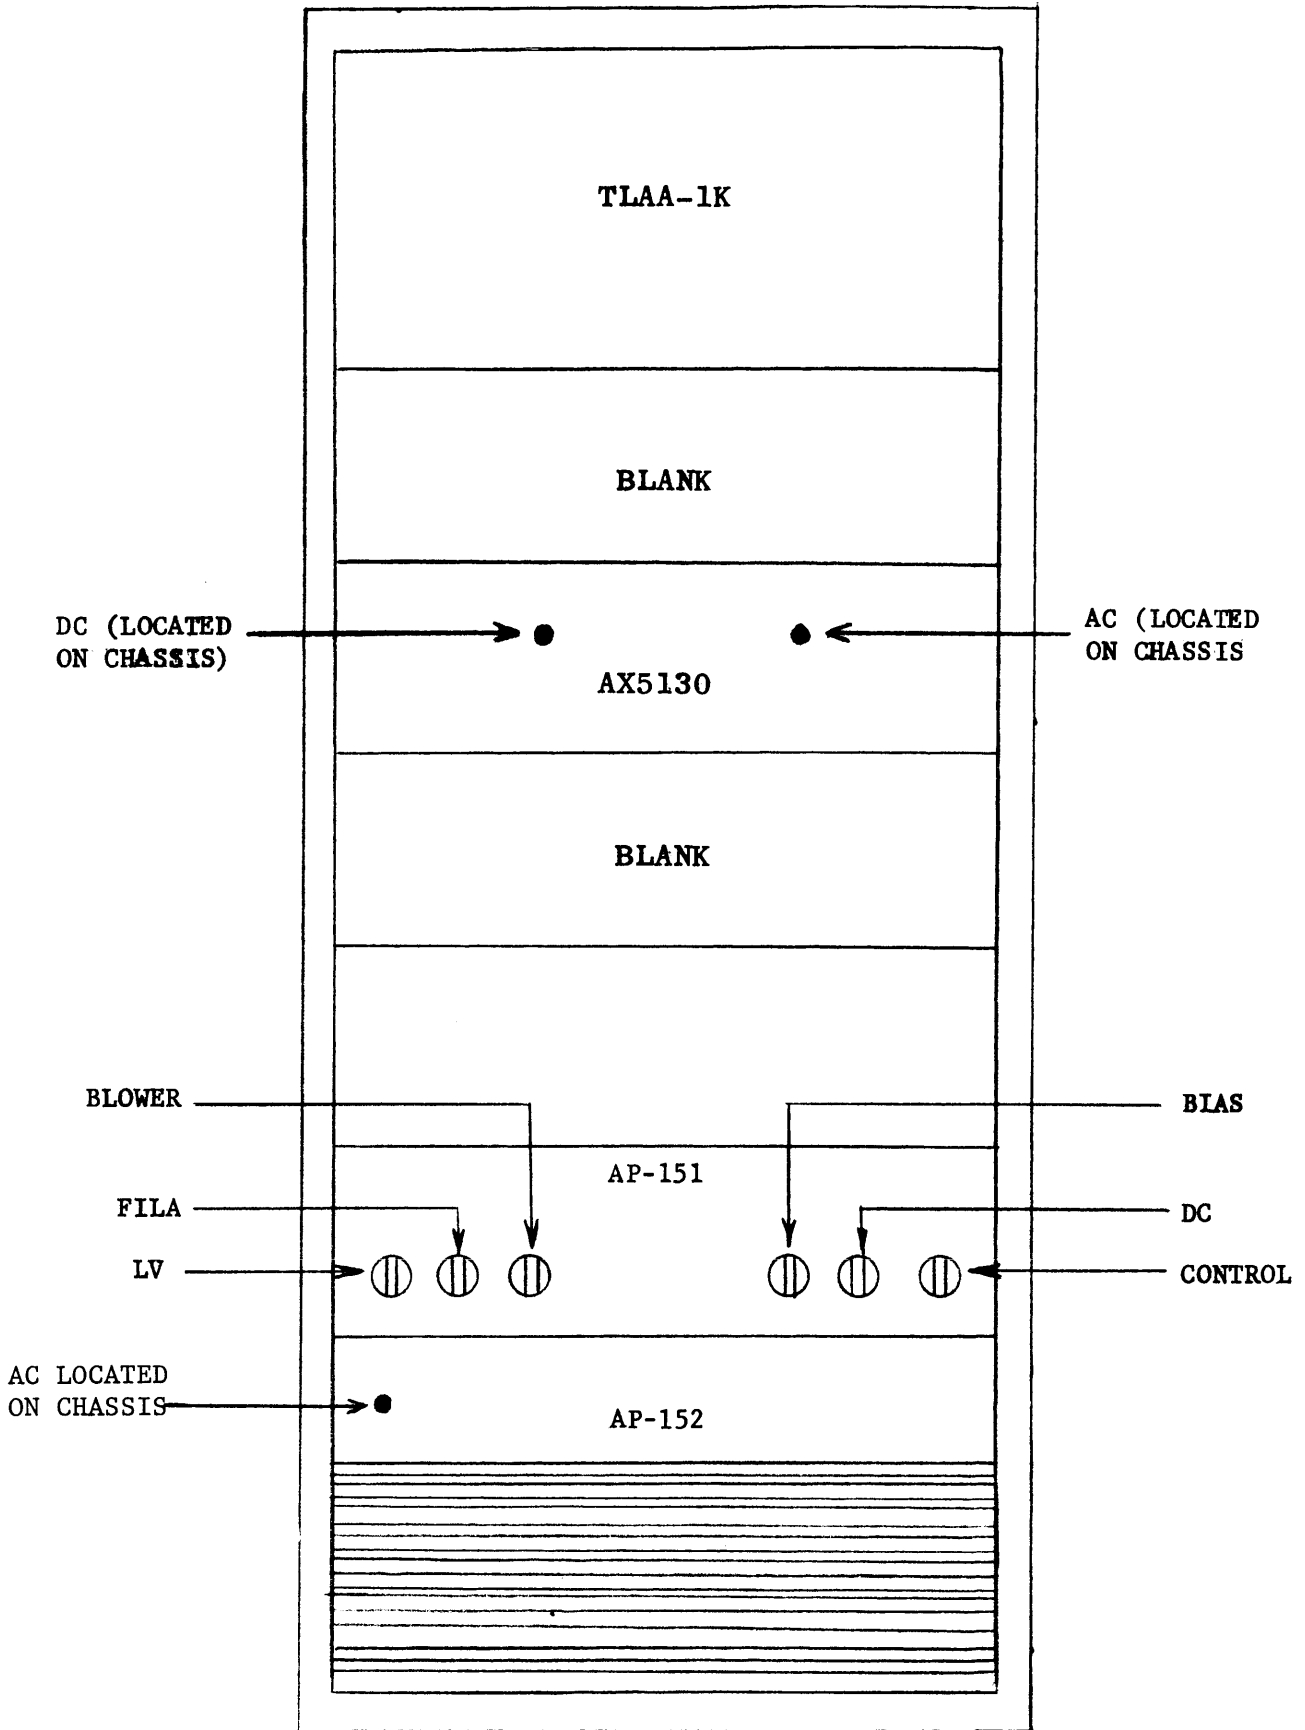

Figure 5-1. Fuse Location
2. Fuse Location Drawing (Figure 5-1)
Should a malfunction occur a visual check of fuses on the system must be performed. (All fuses are indicating type. Refer to Figure 5-1 for fuse location.)